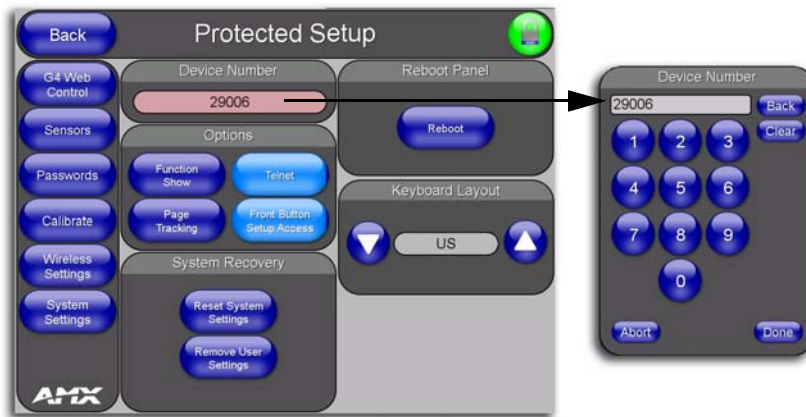

FIG. 72 Protected Setup page
4. Press the red **Device Number** field to open the Device Number keypad (FIG. 72).